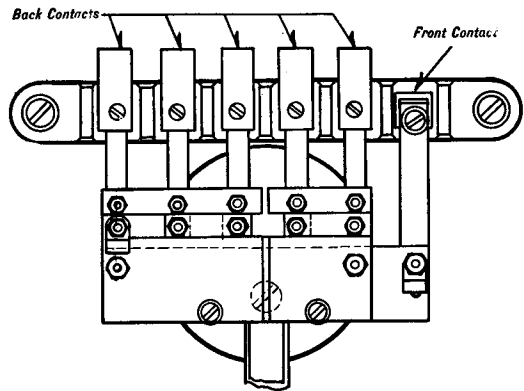

Fig. 8—Five Back and One Front Contacts
- (b) Five back and one front contacts (Figures 8 and 16).